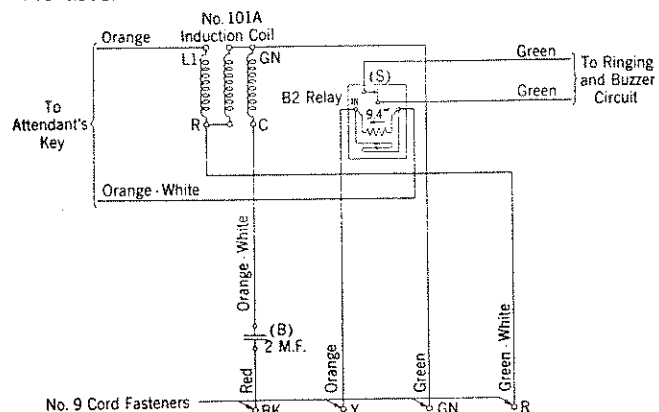

Fig. 3—Wiring of Telephone Circuit for Anti-Sidetone Connections 506 Type PBX's
3.24 Connect the wiring to the induction coil, relay, condenser and cord fasteners in accordance with Fig. 3.